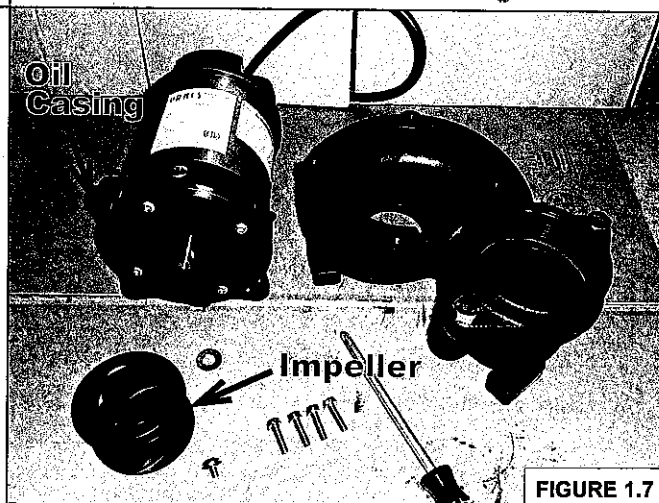

FIGURE 1.7
3. Before re-assembling pump, remove and clean all debris from parts. Make sure that pump casing is properly aligned with motor casing, prior to installing casing bolts. (Figure 1.7)